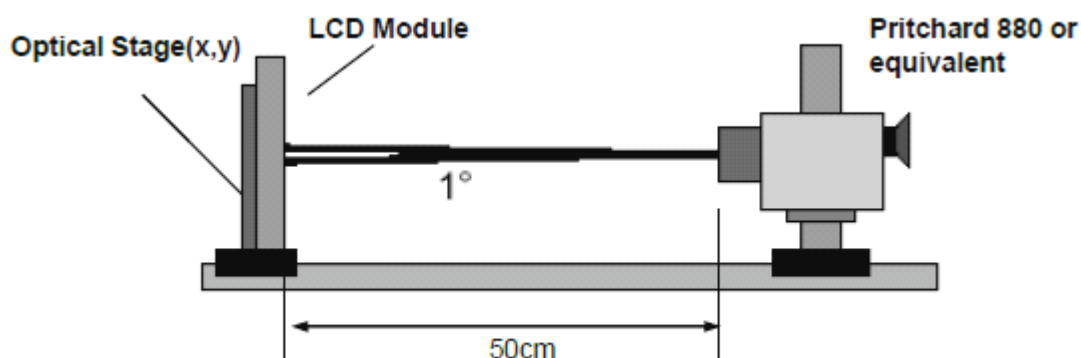

FIG. 1 Optical Characteristic Measurement Equipment and Method
FIG. 1 shows additional information concerning the measurement equipment and method.
2. Surface luminance are determined after the unit has been 'ON' and 1 Hour after lighting the backlight in a dark environment at  $25 \pm 2^\circ\text{C}$ . Surface luminance is the luminance value at center 1-point across the LCD surface 50cm from the surface with all pixels displaying white. For more information see the FIG. 1.